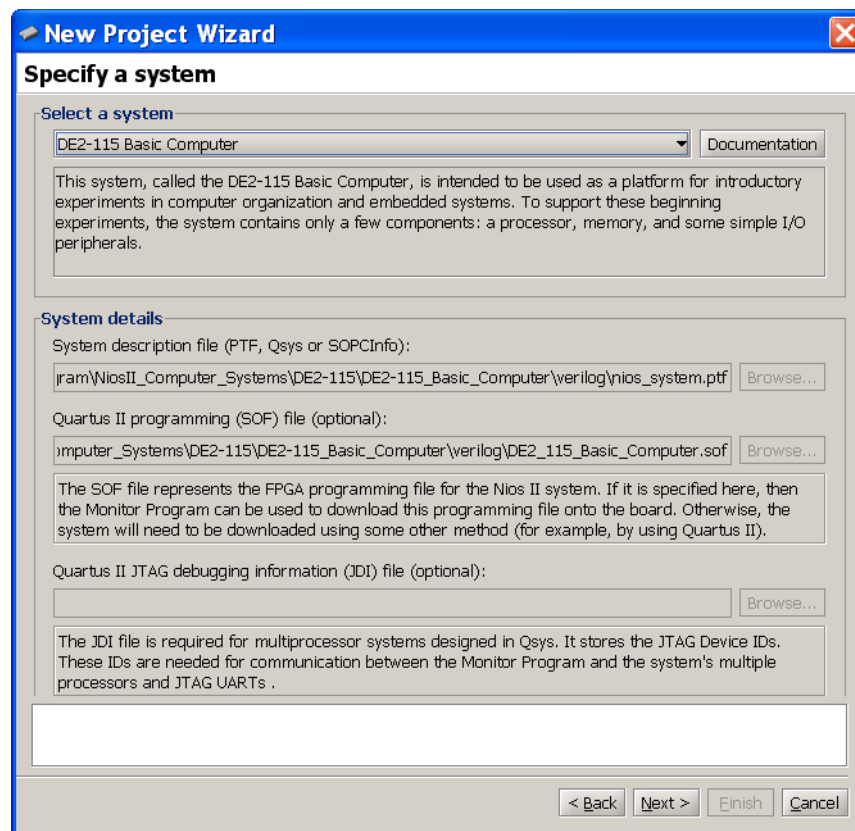
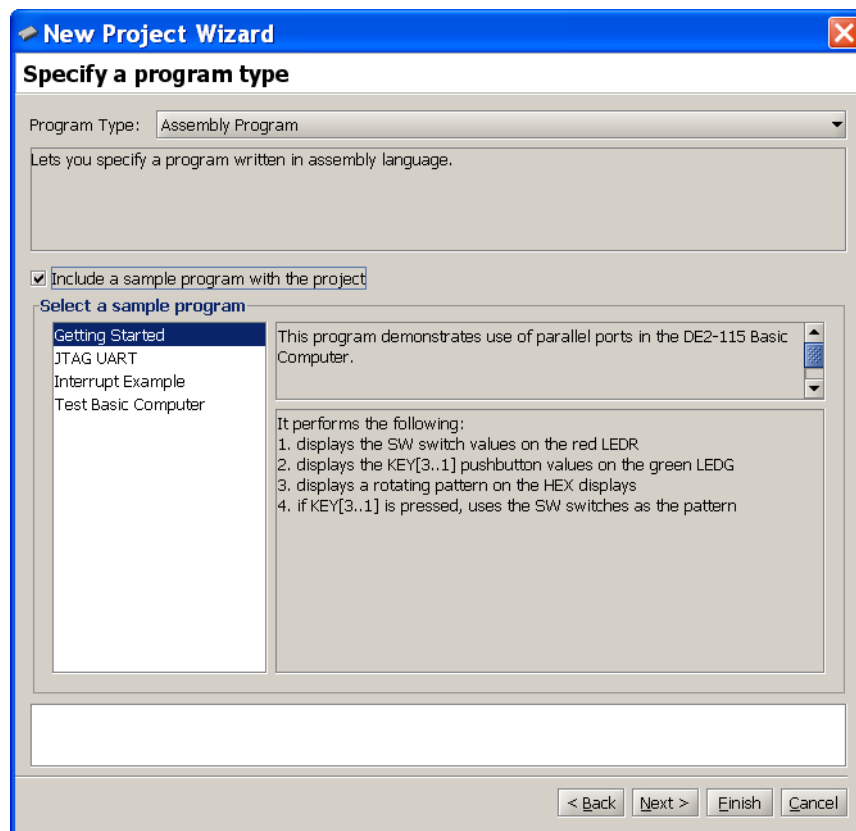
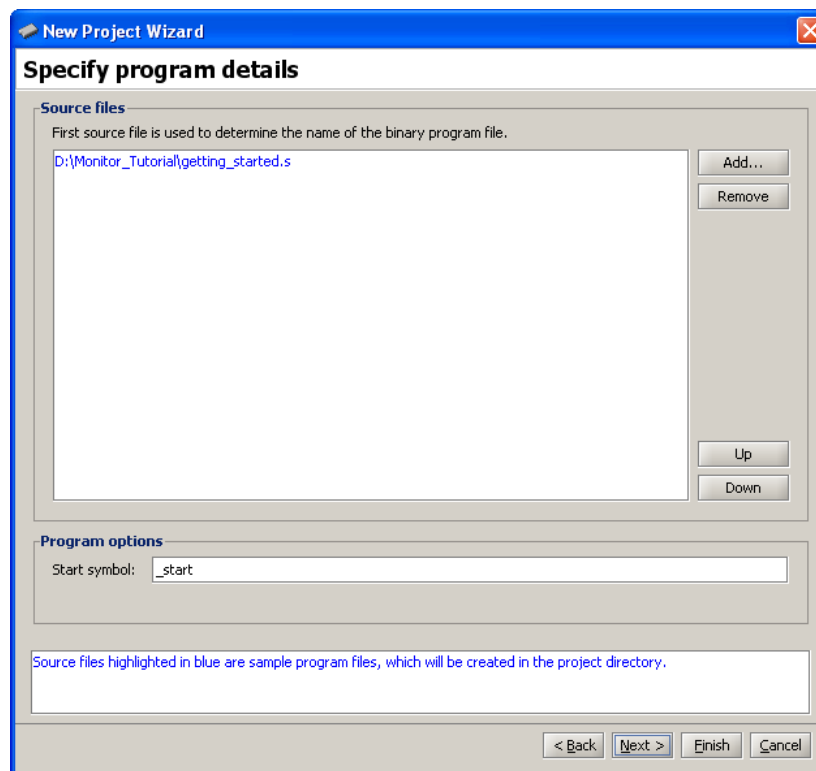

Figure 6. Specifying the Nios II hardware system.
Figure 7. Selecting a program type and sample program.
Figure 8. Specifying source code files.
2. Click **Next** to advance to the window shown in Figure 6, which is used to specify a Nios II hardware system. Nios II-based systems are described by a *.ptf* or *.qsys* file, which are generated by the Altera SOPC Builder tool and Qsys tool, respectively, when the system is created. More information about creating systems using SOPC Builder can be found in the tutorial called *Introduction to the Altera SOPC Builder*, while information about creating systems using Qsys can be found in the *Introduction to the Altera Qsys System Integration Tool* tutorial. Both tutorials are available in the University Program section of Altera's website. An optional *.sof* file, if specified, represents the FPGA circuit that implements the Nios II-based system; this file can be downloaded into the FPGA chip on the board that is being used.
As depicted in Figure 6, select the pre-built system named *DE2 Basic Computer*. In the top right corner of the screen there is a **Documentation** button. Clicking on this button opens a user guide that provides all information needed for developing Nios II programs for the DE2 Basic Computer, such as the memory map for addressing all of the I/O devices in the system. This file can also be accessed at a later time by using the command **Settings > System Settings** and then clicking on the **Documentation** button.
3. Click **Next** to advance to the screen in Figure 7, which is used to specify the program source files that are associated with the project. The **Program Type** drop-down list can be used to select one of the following program types:
For this example, set the program type to **Assembly Program**. When a pre-built Nios II computer system has been selected for the project, as we did in Figure 6, it is possible to click on the selection **Include a sample program with the project**. As illustrated in Figure 7 several sample assembly language programs are available for the DE2 Basic Computer. For this tutorial select the program named *Getting Started*. Click **Next** to advance to the screen in Figure 8. When a sample program has been selected, the source code file(s) associated with this program are listed in the **Source files** box. In this case, the source file is named *getting_started.s*; this source file will be copied into the directory used for the project by the Monitor Program. If a sample program is not used, then it is necessary to click the **Add** button and browse to select the desired source file(s).
Figure 8 shows that it is possible to specify the label in the assembly language program that identifies the first instruction in the code. In the *getting_started.s* file, this label is called `_start`, as indicated in the figure.